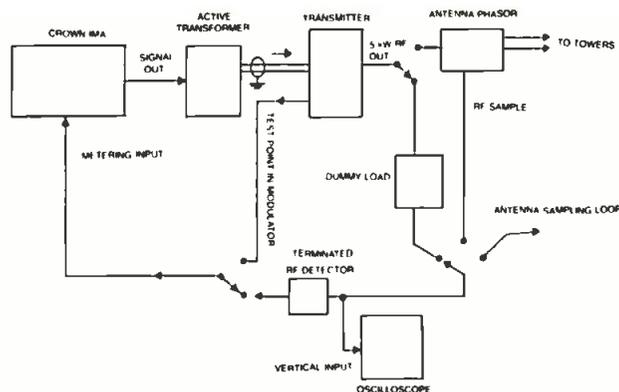

Fig. 3. Diagram of test hookup for IM distortion tests
The next step undertaken in WTAE's testing program was the measurement and minimizing of intermodulation distortion (IM) in both AM transmitters. This setup procedure involved using a Crown IMA intermodulation distortion analyzer set up for 60 Hz and seven kHz tones at a four to one ratio (the SMPTE standard). The unbalanced output of the IMA was fed to the active transformer, then to the transmitter audio input. The transmitter output was on the dummy load, with the RF sample from the dummy load terminated into a low distortion RF detector, the output of which was fed back to the metering input of the IMA. It is very important to use a low distortion RF detector when doing IM tests to prevent erroneous readings caused by detector non-linearities. Figure 3 illustrates the IM testing set-up.